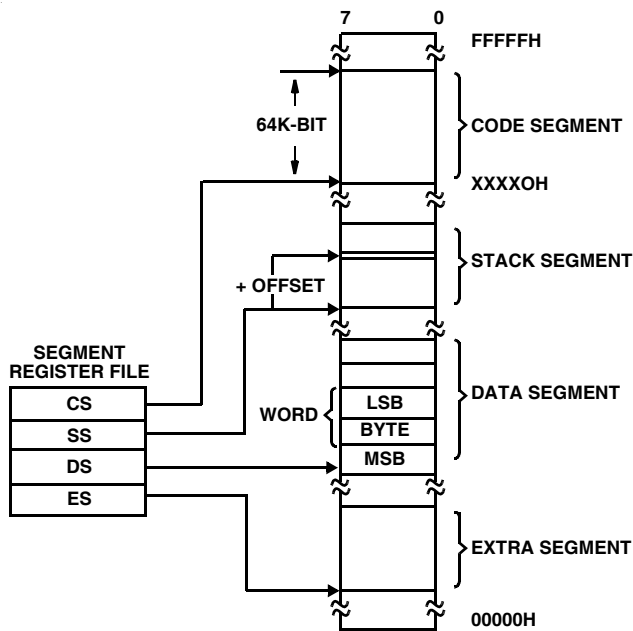

FIGURE 1. MEMORY ORGANIZATION
The processor provides a 20-bit address to memory which locates the byte being referenced. The memory is organized as a linear array of up to 1 million bytes, addressed as 00000(H) to FFFFF(H). The memory is logically divided into code, data, extra, and stack segments of up to 64-bytes each, with each segment falling on 16-byte boundaries. (See Figure 1).